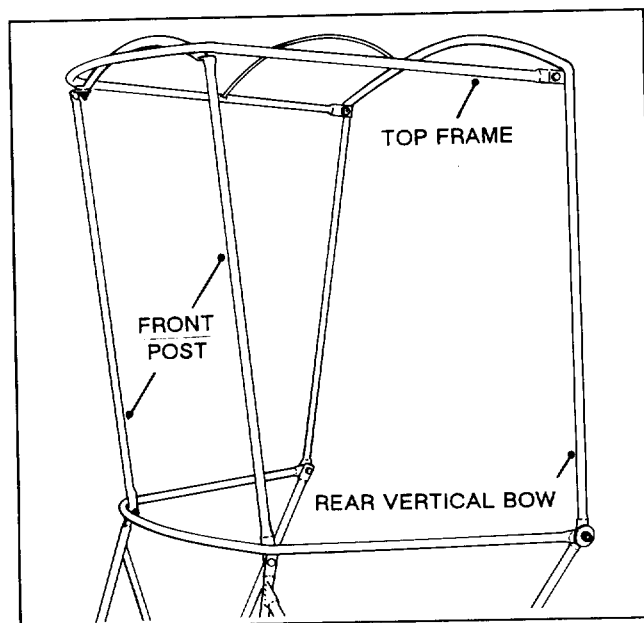

Figure 7
9. Mount the top frame to the rear vertical bow and to the upper ends of the front posts with (4) 1/4-20 x 3/4" lg. capscrews and locknuts, as shown in fig.7.
11. Carefully unfold shell and position over frame (Fig.7).
12. Tie bottom of shell around control cables (Fig.7).
13. Snap vinyl shell around frame until secured in place (Fig.7).